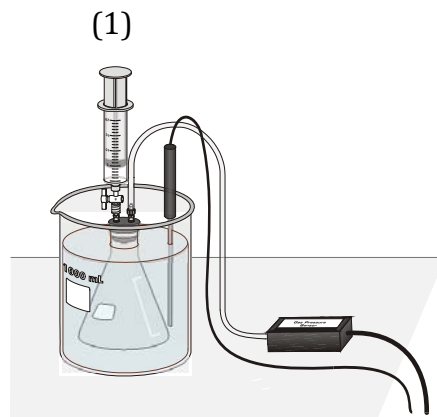

Figure 1
In this experiment, you will investigate the relationship between the vapor pressure of a liquid and its temperature. Pressure and temperature data will be collected using a gas pressure sensor and a temperature probe (*Figure 1*). Vapor pressures will be determined by subtracting atmospheric pressure from the total pressure.
- Perform the following to finish setting up the apparatus as shown in *Figure 1*:
- Hold the flask in the water bath, with the entire flask covered as shown in *Figure 1*.
- Obtain about 10 mL of the liquid (methanol or ethanol) in a small beaker. Draw about 2-3 mL of the liquid up into the syringe (note the exact position of the syringe plunger). With the two-way valve still closed, screw the syringe onto the two-way valve, as shown in *Figure 1*.